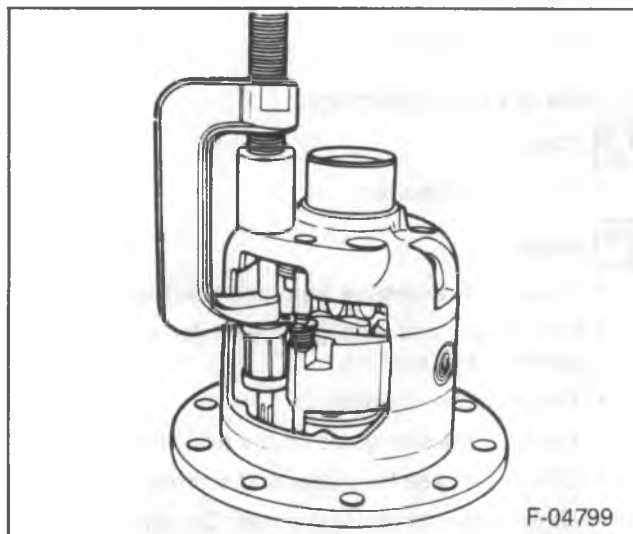

Figure 2—Removing the Governor Bushings
1. Governor bushing (4) using J 26252 (figure 2).
3. Latching bracket bushing (5) using J 26252.
4. Latching bracket (11), shaft, and spring from the case.
5. Governor assembly (11) from the case.
6. Stop pin (2). (9¹/₂-inch only.)
7. Lockscrew (3).
8. Pinion shaft (18).
9. Differential pinion gears (7) and pinion thrust washers (6).
1. Cam plate (16) to the cam side gear (21).
- Alternate the plates as shown in figure 2.
5. Guide clips (20) to the plates.